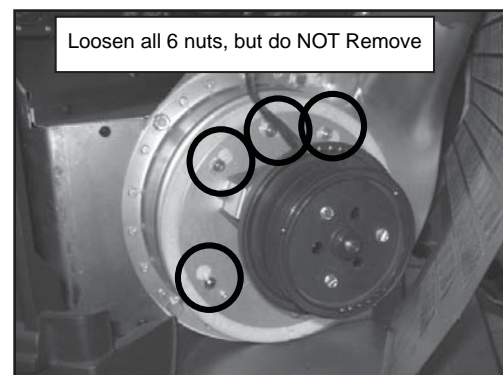

Figure 25.4
2. Remove side panel and then using an 11/32 nut driver to loosen all six nuts, but do not remove. Rotate the blower and remove from the housing. **Figure 25.4.**